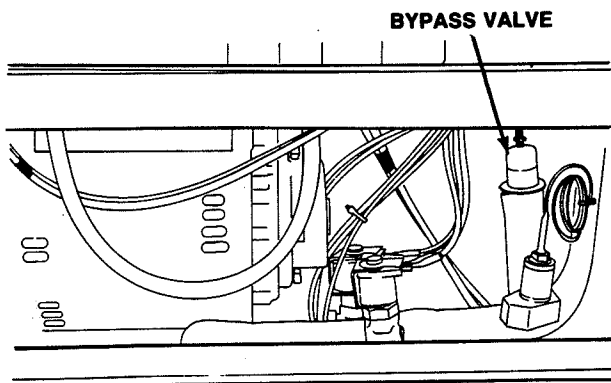

Figure 46. Bypass Valve Replacement
1. Assuming the two side panels and back panels have been removed, perform the following procedures for removing the bypass valve. (Fig. 46).